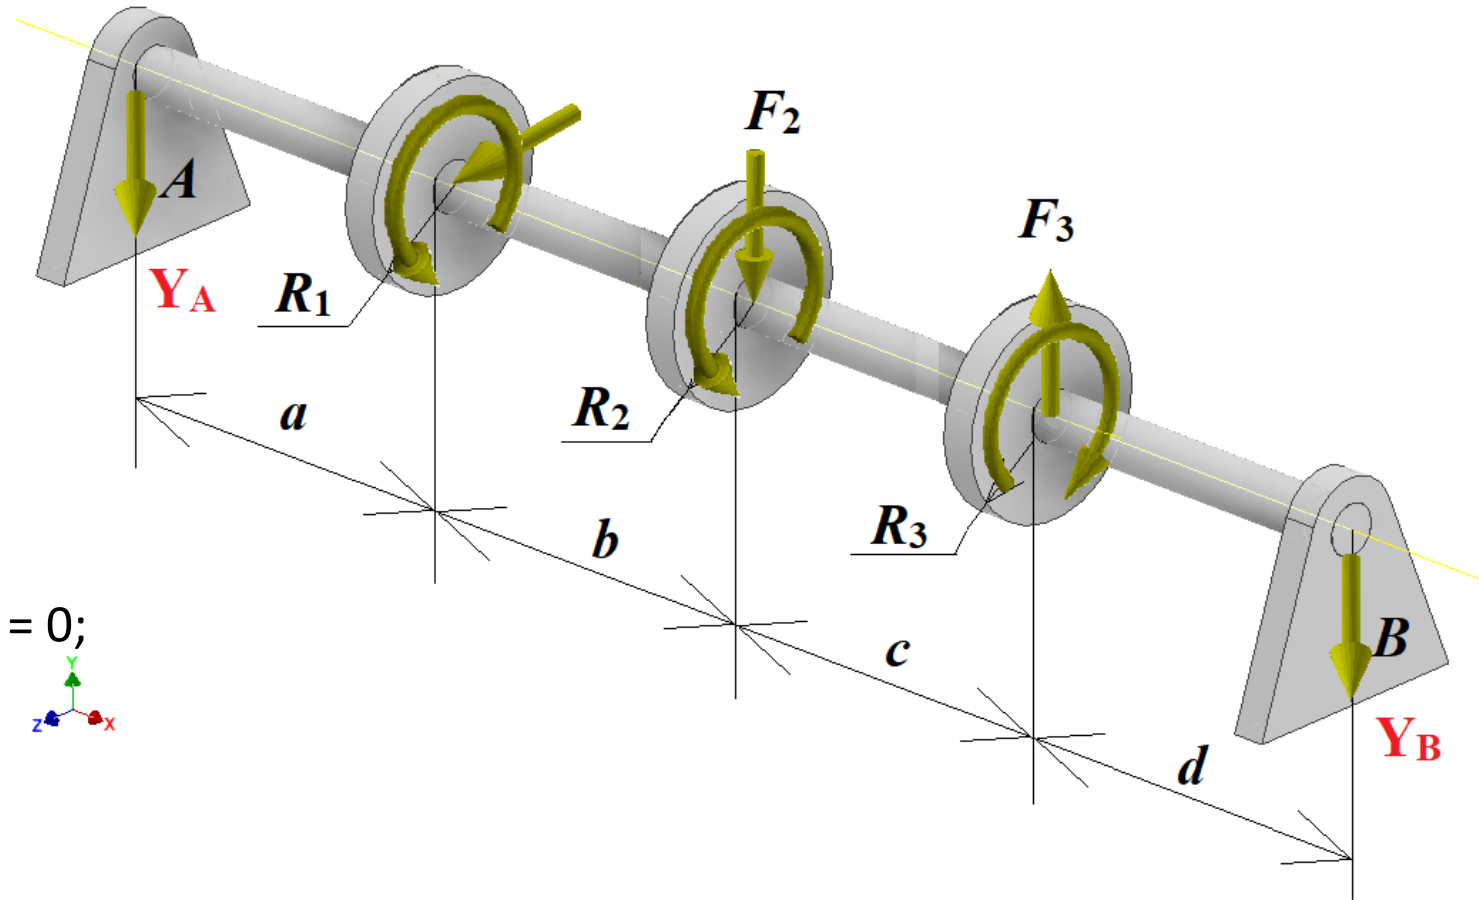

Fig. 6 – Scheme for forces in the **XY plane**
5. Consider the equilibrium in the **XY plane** using the scheme in **Fig. 6**.